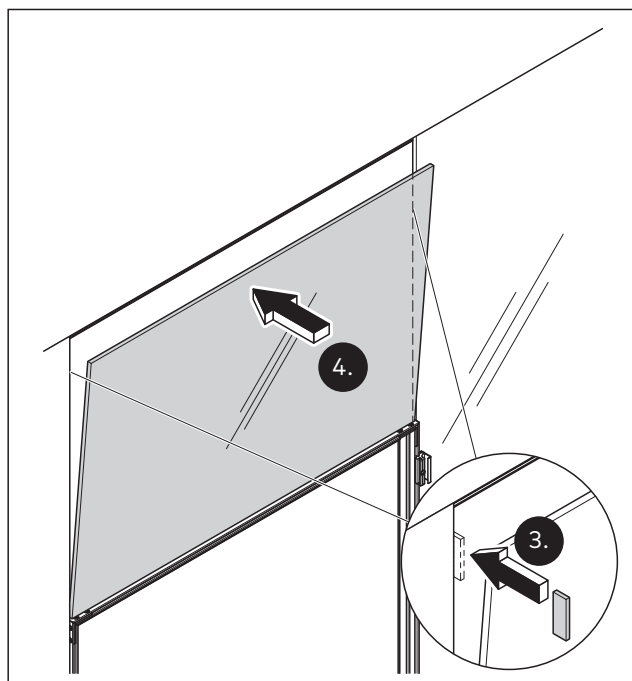

Fig. 42 Align the overpanel and hold in position
4. Ensure the distance between overpanel and side panels with a spacer (Fig. 42).